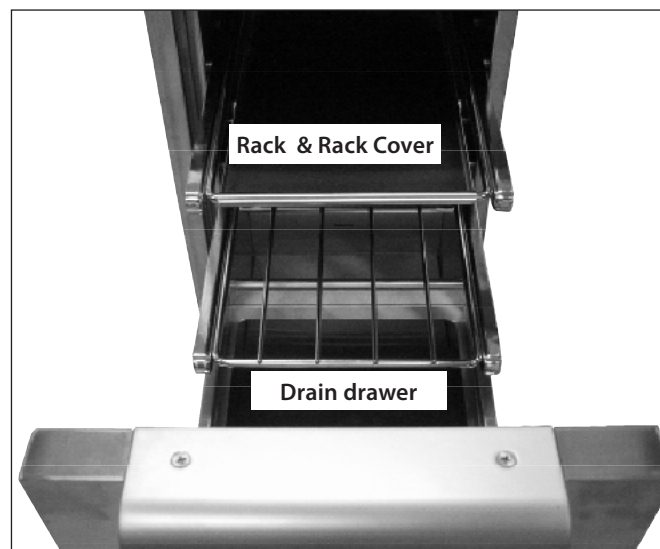

Fig. 15
7. On models so equipped, install the two (2) racks provided into the opening by sliding them onto the rollers on the sidewalls of the center cavity (Fig. 15).